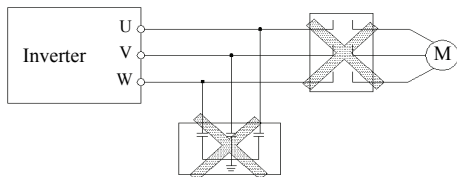

Fig.3-6 Forbid to use contactor and absorbing capacitor
- (1) Before wiring, make sure that the power has been completely cut off for more than 10 minutes, otherwise there is a danger of electric shock.
- (2) Forbid connecting power wire to output U, V, W of the inverter.
- (3) If there is current leakage inside inverter, inverter and motor must be earth grounding for safety assurance, please refer to clause 8 in Chapter 3.4.1 for grounding wiring.
- (4) Before shipment compression resistance test of the inverter is Passed, so users should not conduct compression resistance test again.
- (5) Do not add absorbing capacitor or other resistance-capacitor absorbing device between inverter and motor; also do not add electromagnetic contact. If contactor and other switch component needed to add, please make sure inverter suspended without output, show as Fig.3-6.
- (6) To provide inverter over-current protection in output side and convenient maintenance under power off, it should be connected to power source through air switch and contactor.
- (7) Control signal wire should select multi-core stranded wire or shielding wire. One end of the shielding layer hang in the air, and the other end connect to inverter earth grounding terminal, connection wire shorter than 20m.